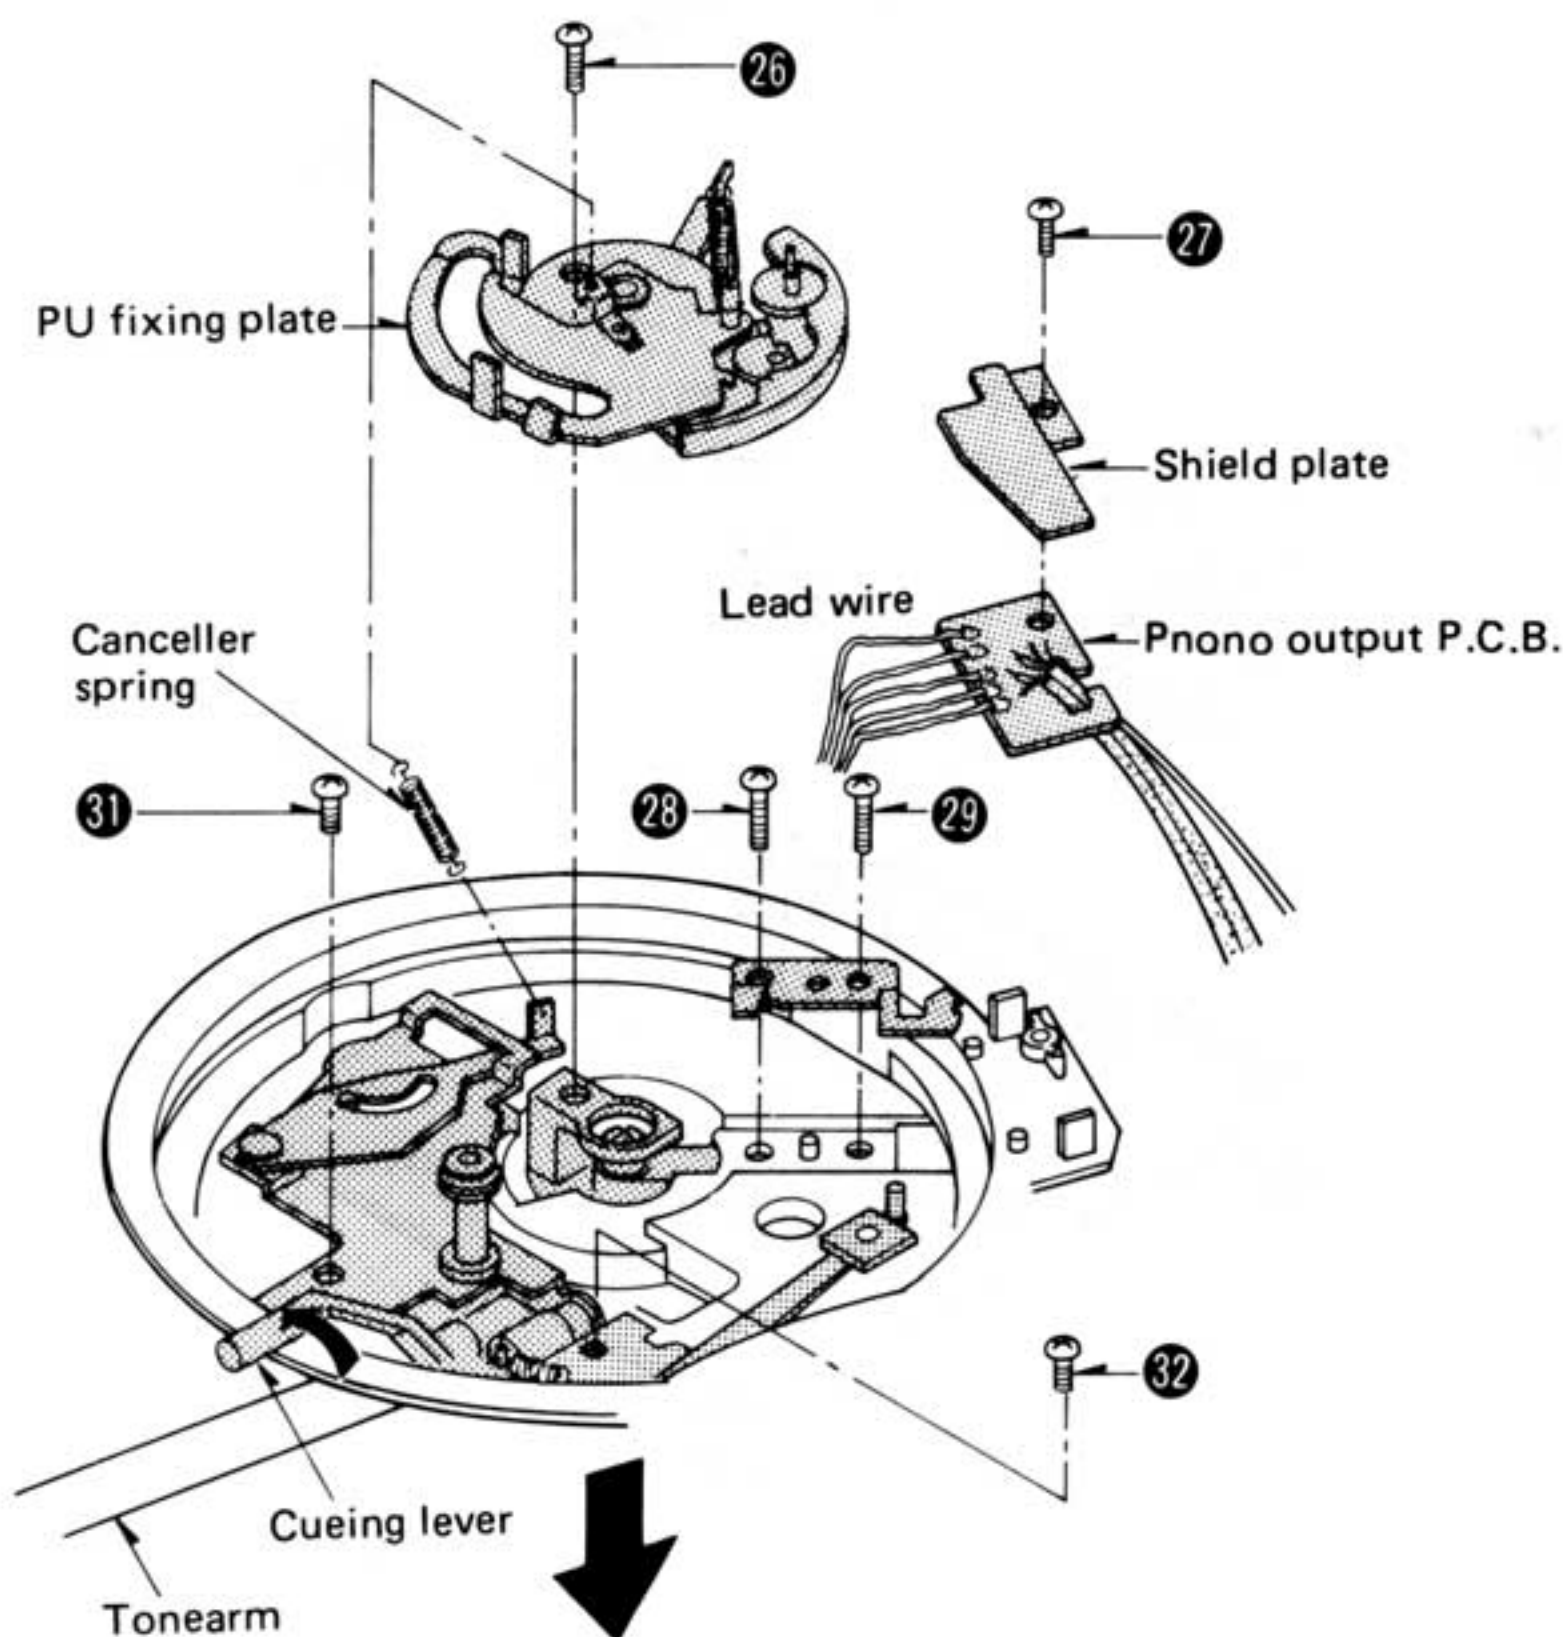

Fig. 7
3. When removing the tonearm, turn over the arm base and remove the PU fixing plate setscrew 26 and canceller spring. (See Fig. 7)
4. Remove the phono output P.C.B. setscrew 27 and unsolder the 5 lead wires from the tonearm. (See Fig. 7)
5. Remove the tonearm setscrews 28 and 29 . Then, the tonearm can be removed in the direction of the arrow. (See Fig. 7)
10. Before mounting the arm base, make sure that the automatic mechanism is in the initial stage, and then shift the cueing lever of the arm base down in the direction of the arrow in order to make cueing-up. (See Fig. 7)